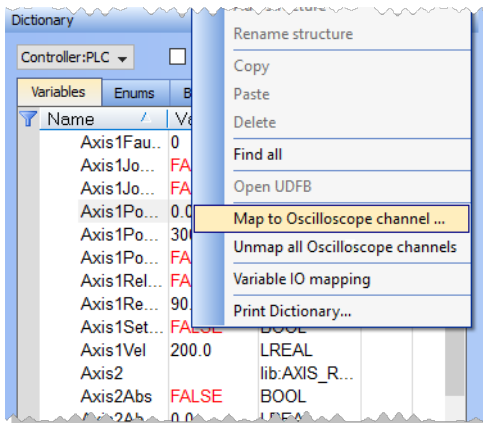

Figure 10-44: Map to Oscilloscope channel ... menu option
2. In the menu, click the **Map to Oscilloscope channel ...** (Figure 10-44)